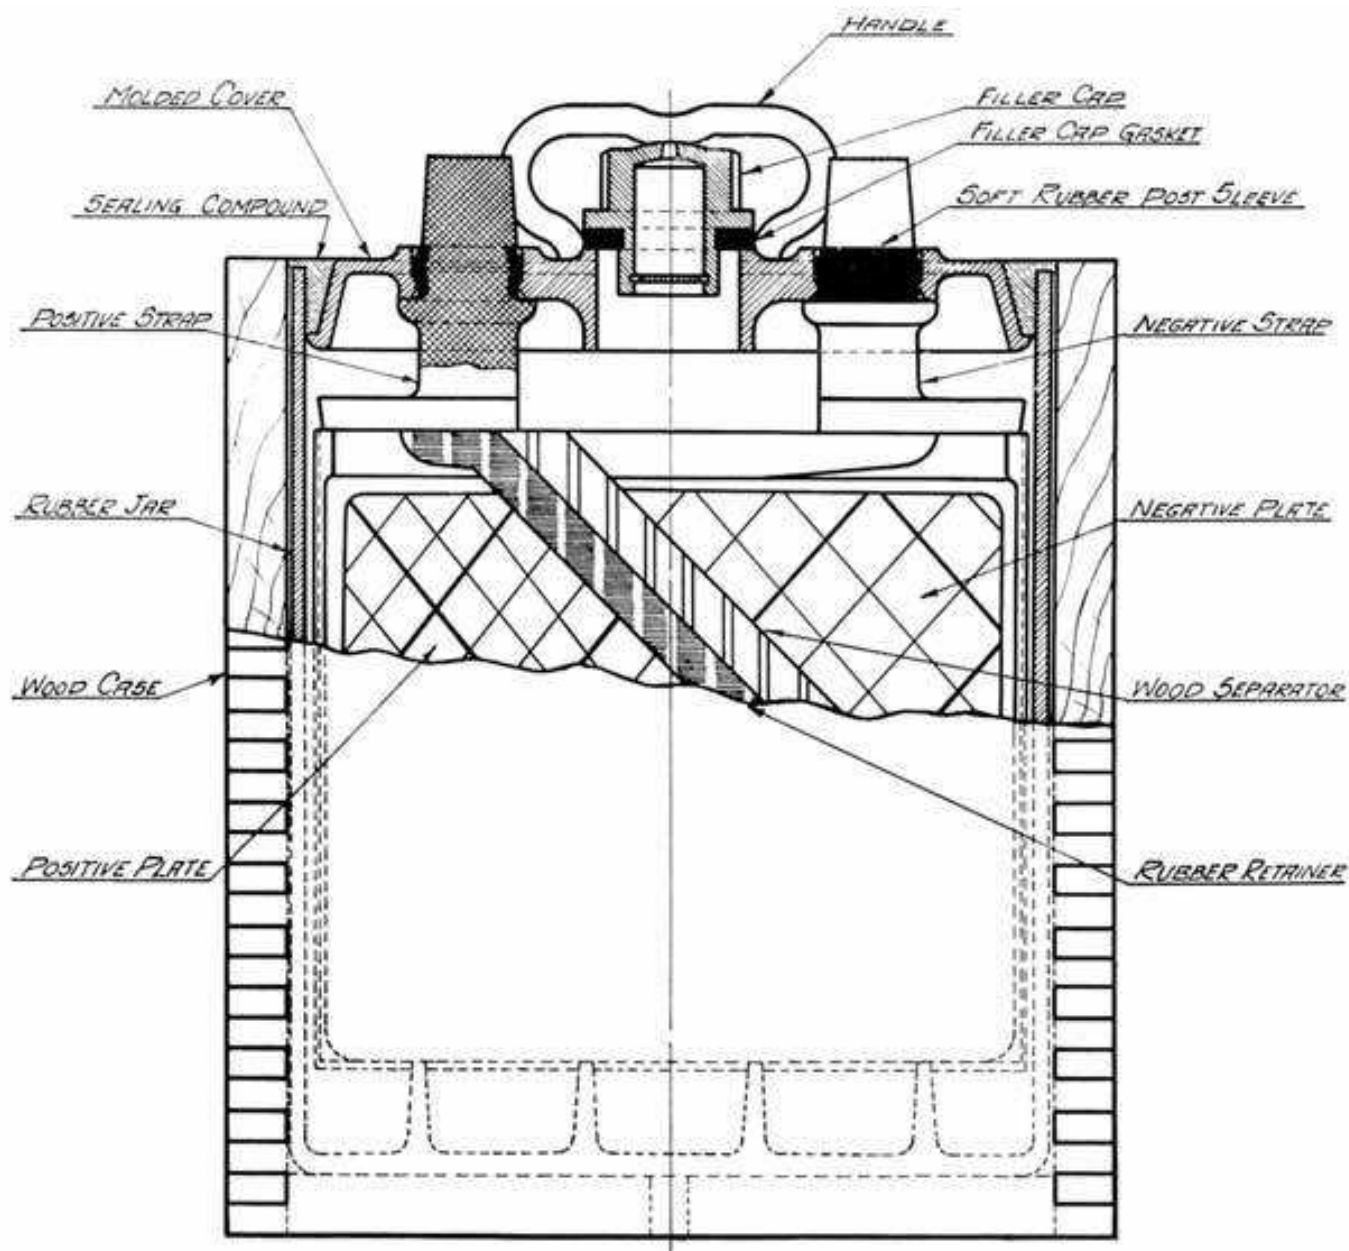

Fig. 256. Cross Section of New Type Philadelphia Diamond Grid Battery
**Rubber Lockt Seal Covers.** During the last few years there has been a marked tendency in the battery industry to do away with the use of sealing compound for making a joint between the cell cover and the terminal posts and to substitute a mechanical seal of some kind at this joint. The Philadelphia Storage Battery Co. has developed the "Rubber Lockt". cover seal, the construction of which is shown in detail in Figs. 256 and 257. On the cell posts there is a flange which supports the cover, and above this there is a recessed portion into which is slipped a soft rubber sleeve or bushing. This portion of the post is made with a ridge extending around the post and with the rubber sleeve forming a high point over which a corresponding locking edge in the terminal hole of the cover is snapped. This construction makes a joint which is flexible and at the same time acid tight. Vibration tends to push the cover down on the supporting flanges, as the post diameter is smaller below the locking edge. The design is simple, both from the assembly and the repair standpoint, as no tools are required for either operation. In the assembly operation the groups are lined up so that the post centers are correct and, after wetting the soft rubber sleeves, the cover is snapped in place with a quick downward push. See Fig. 258. In removing the covers, catch under each end with the fingers and pull upward, at the same time pressing with the thumbs on the top of the posts. See Fig. 259.